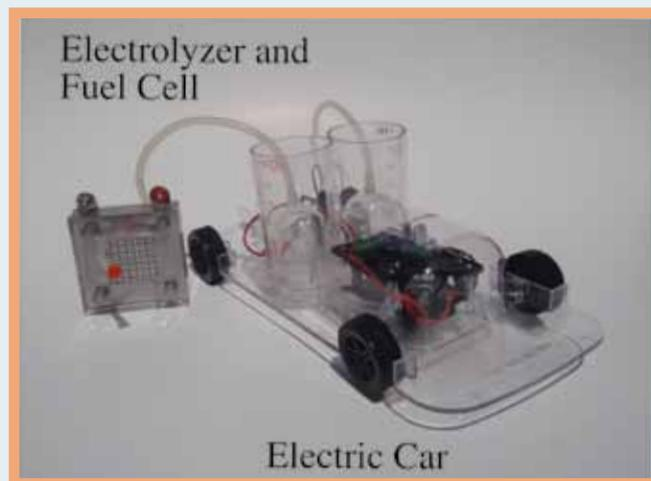

FIG. 1. An electro-chem-e-car: electrolyzer and fuel cell (left) and electric car (right).
As part of your course grade (XX% of the grade), you will get experimental data from an electrochemical system and perform a regression. The electrochemical system that you will work on will be an electro-chem-e-car like the one shown in Fig. 1.
- Electric car (Fig. 1)